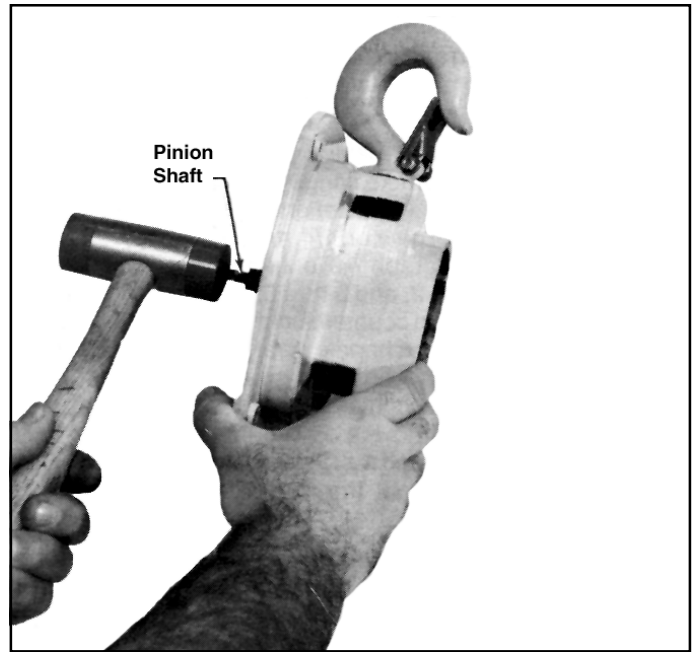

Figure 7-3. Removing Pinion Shaft
c. Remove retaining ring from pinion shaft (on hand wheel side of frame) and tap out pinion shaft. See Figure 7-3. Ball bearing should come out with pinion shaft.